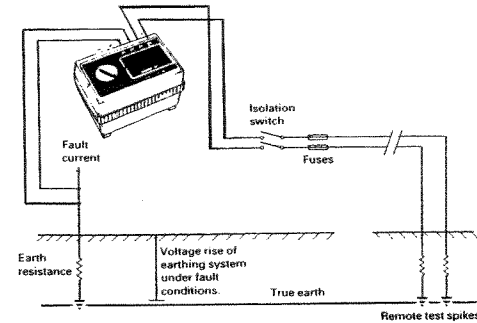

Fig. 3 A method of connection where fault conditions may occur
- c) The P2 and C2 (or S and H) terminals must be connected to an isolation switch, whose rating will cope with the maximum fault voltages (refer to Fig. 3).
- h) If a fault occurs while a test is being made the instrument may be damaged. Incorporating fuses at the isolation switch, of rating 100 mA and able to cope with the maximum fault voltage, will provide some protection for the instrument (see Fig. 3).